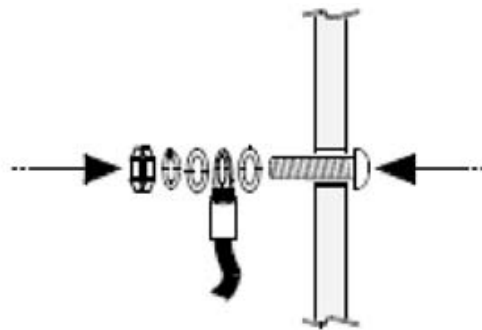

Figure 4. Earth Assembly
- o earthing the ModCon75 Touch Controller according to Figure 4.
- o Bore a hole (Figure 4).
- o On the screw's shank, place the following hardware in this order: washer, ring terminal, second washer, spring, and nut as shown in Figure 4.